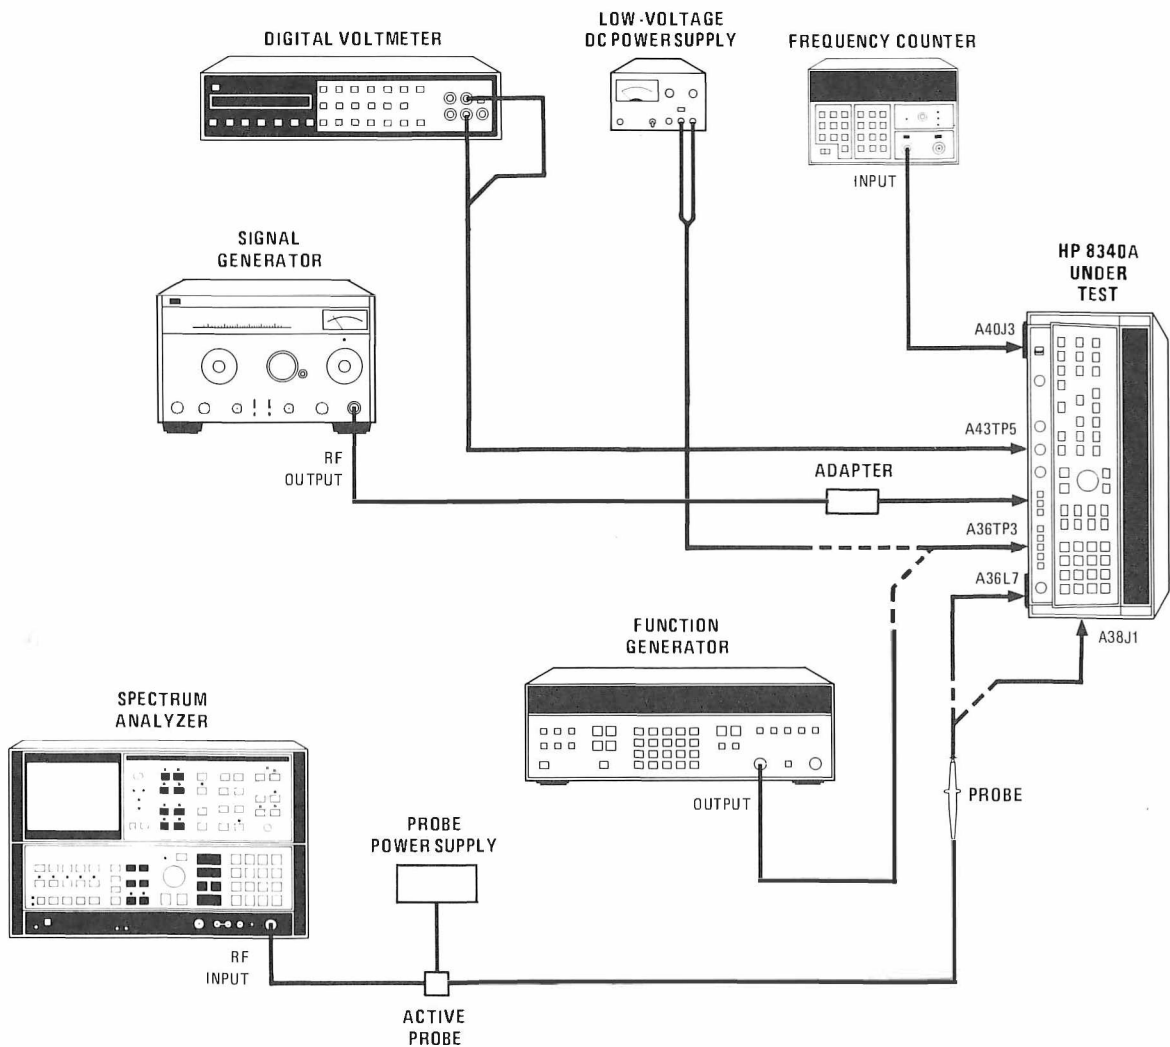

Figure 5-10. 20/30 Loop Phase Lock Adjustments Setup
1. Position 8340A in test position as shown in Figure 5-10 with bottom cover removed. Connect equipment as shown in Figure 5-10 and allow one-half hour warm up time. Set LINE switch to STANDBY. Remove A41 PLL2 Phase Detector from its connector on the motherboard. (It is not necessary to completely remove the A41 assembly from the instrument.)